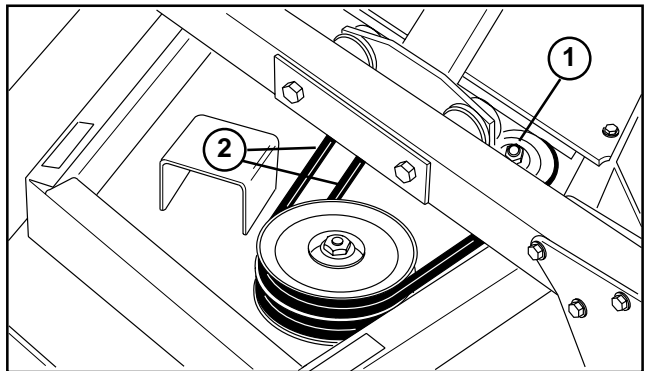

Figure 10
2. To tension belts, loosen flange locknut at top of idler pulley (Fig. 10). Slide pulley against belt until proper tension is reached. Hold pulley in position and tighten locknut.